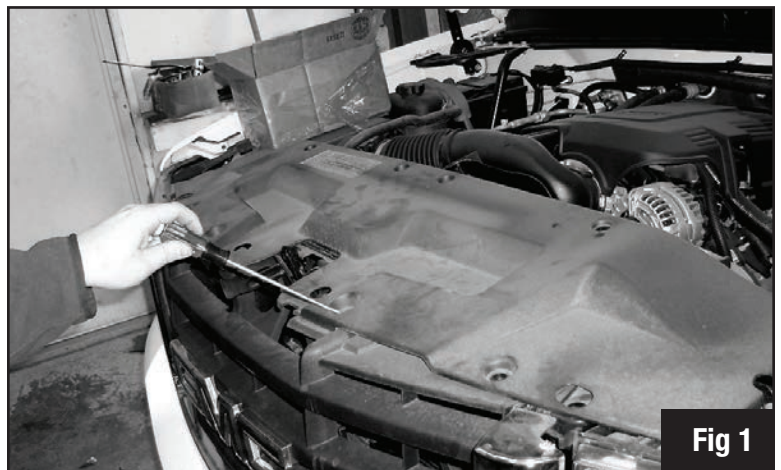

Fig 1
B) Open the Hood and remove the 8 dart clips holding the plastic radiator valance. *Fig 1.*